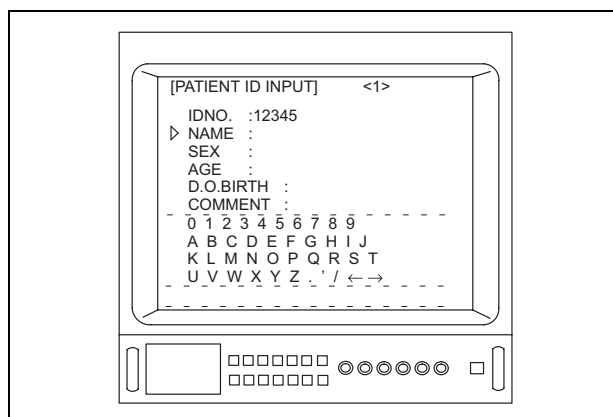

Figure 5.44
6. Depress the menu switches “◀” or “▶”, or the “↑/↓/←/→” key on the keyboard to move the arrow “▷” to the next item that you would like to enter (for example, “NAME”) (see Figure 5.44).